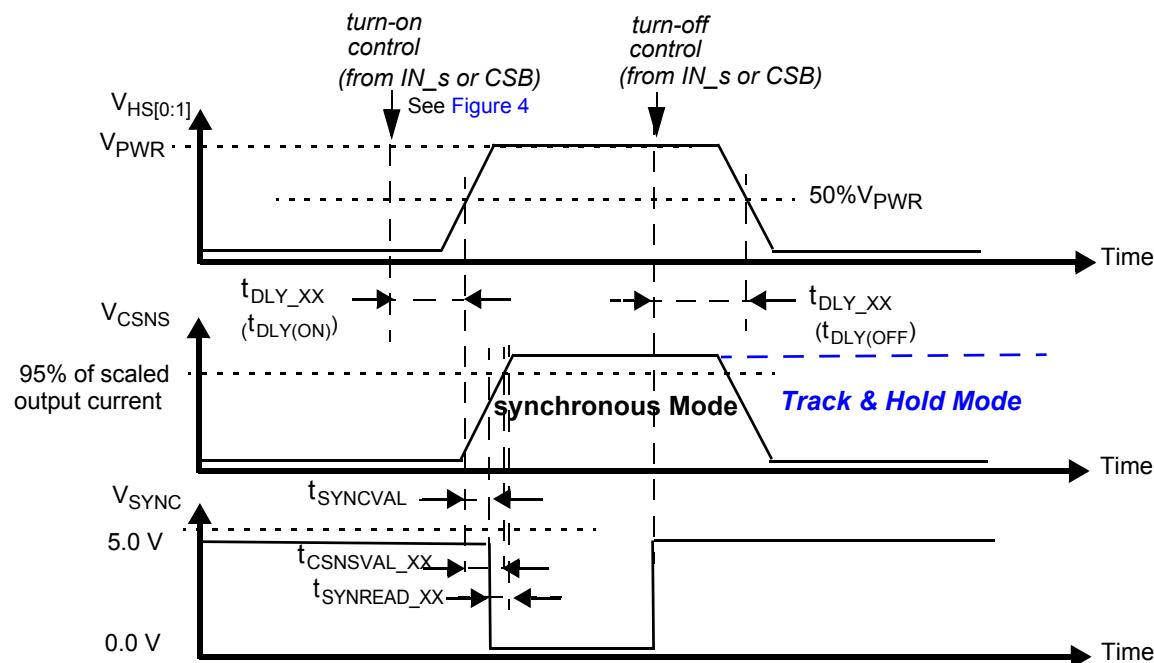

Figure 9. Synchronous & Track-and-Hold Current Sensing Modes: Associated Delay & Settling Times
29. Time required to switch off the channel after detection of overtemperature (OT), overcurrent (OC), SC or UV error (time measured between start of the negative edge on the FSB pin and the falling edge on the output voltage until  $V(\text{HS}[0:1]) = 50\%$  of  $V_{\text{PWR}}$ ).
30. Settling time ( $= t_{\text{CSNSVAL\_XX}}$ ), SYNC output signal delay ( $= t_{\text{SYNCVAL\_XX}}$ ) and Read-out delay ( $= t_{\text{SYNREAD\_XX}}$ ) are defined for a stepped load current using a  $10 \Omega$  resistive load for  $\text{CSNS\_RATIO\_s} = 0$ . (see Figure 9 and Output Current Monitoring \(CSNS\)).
The CS pin allows independent current monitoring of channel 0 or channel 1 up to the steady-state overcurrent threshold. It can also be used to sense the device temperature. The different functions are selected by setting bits CSNS1\_en and CSNS0\_en to the appropriate value (Table 22). When the CSNS pin is sensed during switch-off in the (optional) track & hold mode (see Figure 9), it outputs the scaled value of the load current as it was just before turn-Off. When several devices share the same pull-down resistor, the CSNS pins of devices the current of which is not monitored must be tri-stated. This is accomplished by setting CSNS0\_en = 0 and CSNS1\_en = 0 in the GCR register (Table 9). Settling time ( $t_{CSNSVAL\_XX}$ ) is defined as the time between the instant at the middle of the output voltage's rising edge ( $HS[0:1] = 50\%$  of  $V_{PWR}$ ), and the instant at which the voltage on the CSNS-pin has settled to  $\pm 5.0\%$  of its final value. Anytime an overcurrent window is active, the CSNS pin is disabled (see Overcurrent Detection on Resistive and Inductive Loads). The current and temperature sensing functions are unavailable in Fail-safe mode and in Normal mode when operating without the  $V_{DD}$  supply voltage. In order to generate a voltage output, a pull-down resistor is required ( $R(CSNS)=1.0\text{ k}\Omega$  typ. and  $470 < R(CSNS) < 10\text{ k}\Omega$ ). When the current sense resistor connected to the CSNS pin is disconnected, the CSNS voltage is clamped to  $V_{CL(CSNS)}$ . The CSNS pin can source currents up to about 5.6 mA.
To synchronize current sensing with an external process, the SYNC signal can be connected to a digital input of an external MCU. SYNC is asserted logic low when the current sense signal on the CSNS pin has the specified accuracy  $t_{SYNREAD\_XX}$  seconds after the falling edge on the SYNC pin (Figure 9) and remains valid until a rising edge is generated. The rising edge that is generated by the SYNC pin at the turn-Off instant (internal or external) may also be used to implement synchronization with the external MCU. Parameter  $t_{SYNCVAL\_XX}$  is defined as the time between the instant at the middle of the output-voltage rising edge ( $HS[0:1] = 50\%$  of  $V_{PWR}$ ), and the instant at which the voltage on the SYNC-pin drops below 0.4 V ( $V_{SOL}$ ). The SYNC pins of different devices can be connected together to save  $\mu$ -controller input channels. However, in this configuration, the CSNS function of only one device should be active at a time. Otherwise, the MCU does not determine the origin of the SYNC signal. The SYNC pin is open drain and requires an external pull-up resistor to  $VDD$ .